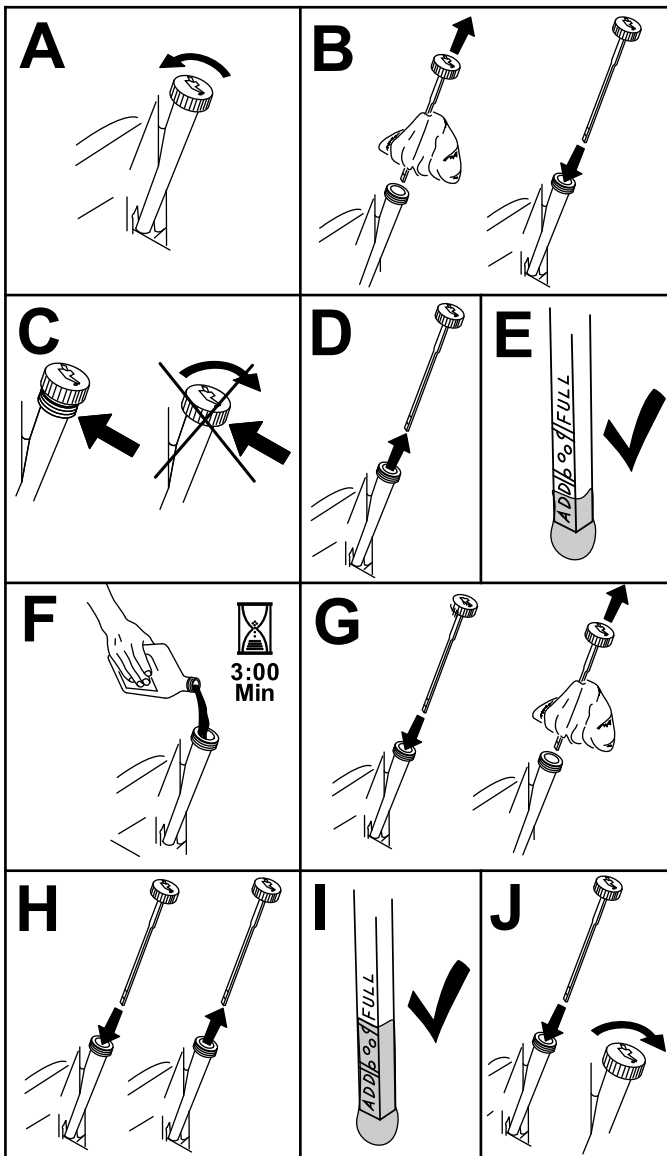

Figure 41
3. Check the engine-oil level as shown in (Figure 41).